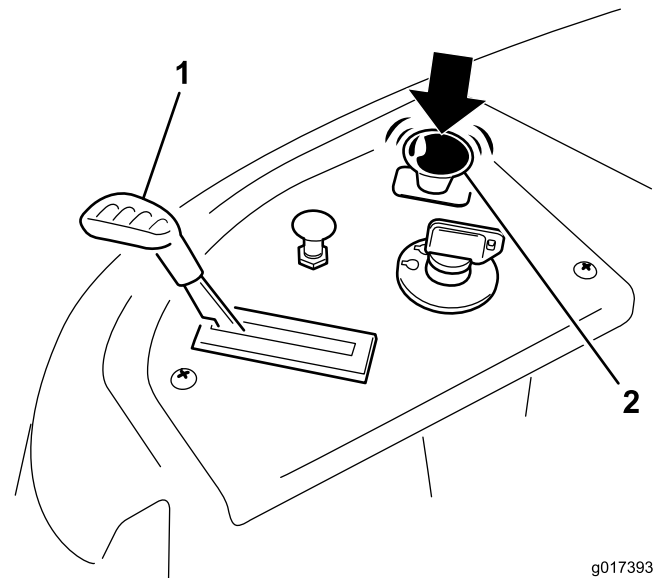

Figure 12
2. Move the throttle to the fast position (Figure 12).
3. Disengage the blades by moving the blade control switch to Off (Figure 12).